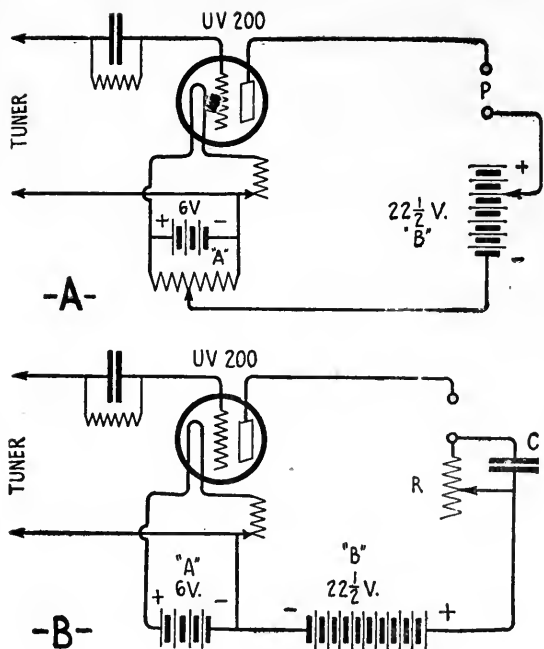

FIG. 7
It is therefore necessary to accurately control the plate voltage just below the point of excessive ionization, where the signal intensity is high. The two methods for doing this are shown in Fig. 7, where A is the potentiometer across the A battery. The middle movable arm connects with the negative terminal of the B battery. When the arm is moved toward the positive terminal of the A battery (1), the $22\frac{1}{2}$ volts of the B battery are placed in series with the cells of the A battery; if this is of the six-volt storage-battery type, when the lever has reached (1) the total B-battery voltage will be $6 + 22\frac{1}{2}$ volts or $28\frac{1}{2}$ volts. For values lower than $22\frac{1}{2}$ volts a tapped B battery must be used, and the plate connected to the lowest tap. Then the range will be from $16\frac{1}{2}$ to $22\frac{1}{2}$ volts.